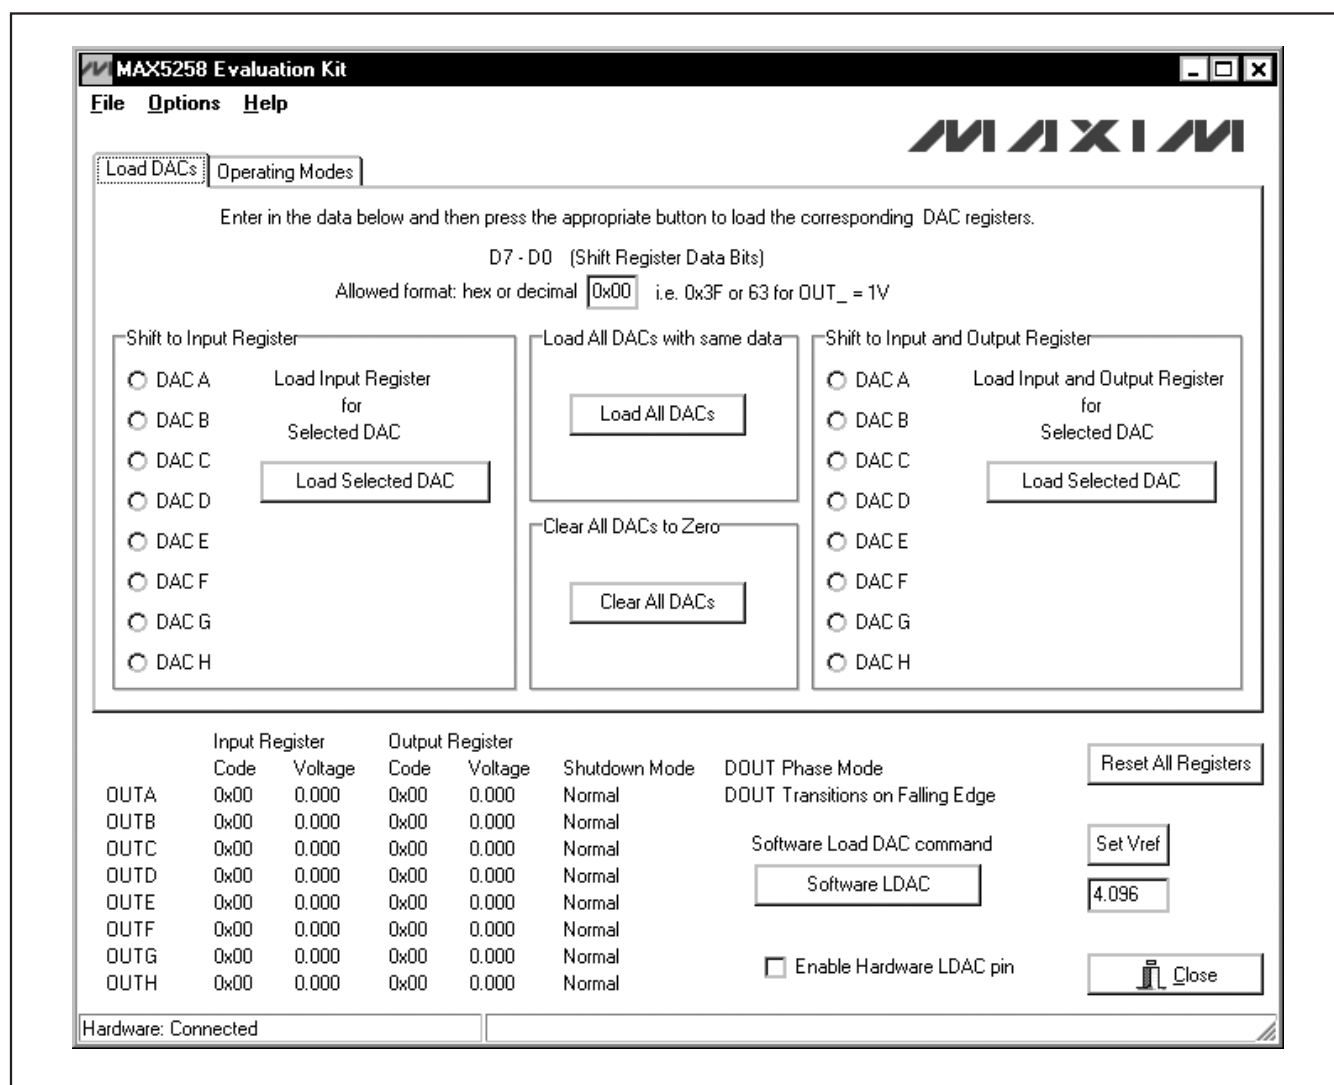

Figure 1. MAX5258 EV Kit Software Main Window (Load DACs Tab)
- 6) Start the MAX5258 EV kit software by opening its icon in the **Start | Programs** menu. When the **Part Selection** window appears, click on the **MAX5258** radio button and then press the **Next** button. The EV kit software main window appears, as shown in Figure 1.
The main window of the evaluation software (shown in Figure 1) displays the voltages and codes for all DAC input and output registers. In addition, the main window has two tabs. The **Load DACs** tab sheet controls all of the DAC loading features of the MAX5258. The